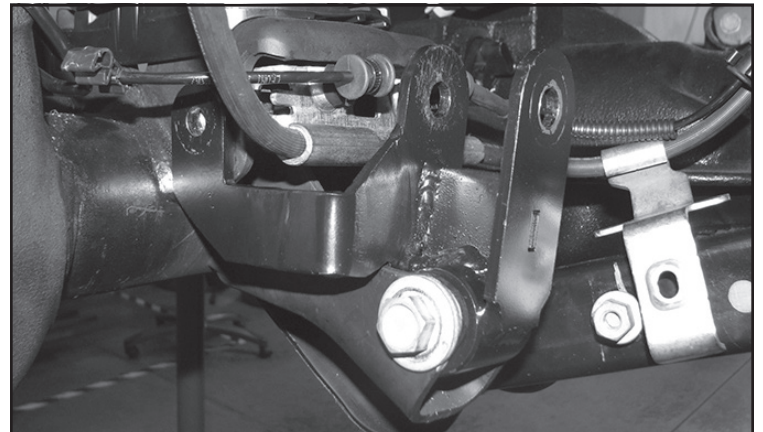

FIGURE 16 - STEP 16
16. Install FT50582 (Driver Front Shock Ext) into the factory lower shock mount using the factory hardware. **SEE FIGURE 16**